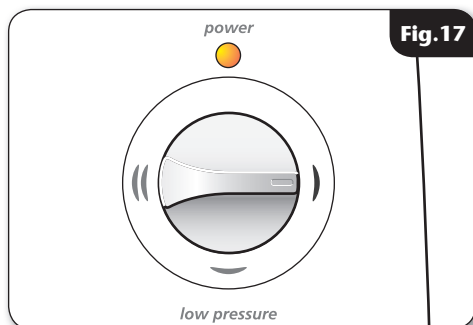

Fig.17
- Before turning on the electric and mains water supplies to the shower, make sure that the power selector is at the 'COLD' position (**fig.17**).